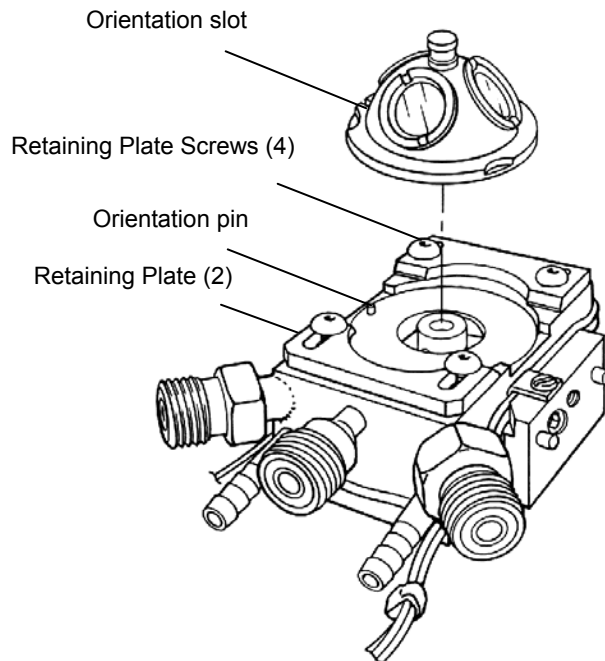

Figure 3 • Installing the HVC Dome
- Install the dome making sure that the orientation slot on the dome engages the orientation pin on the HVC (Figure 3).